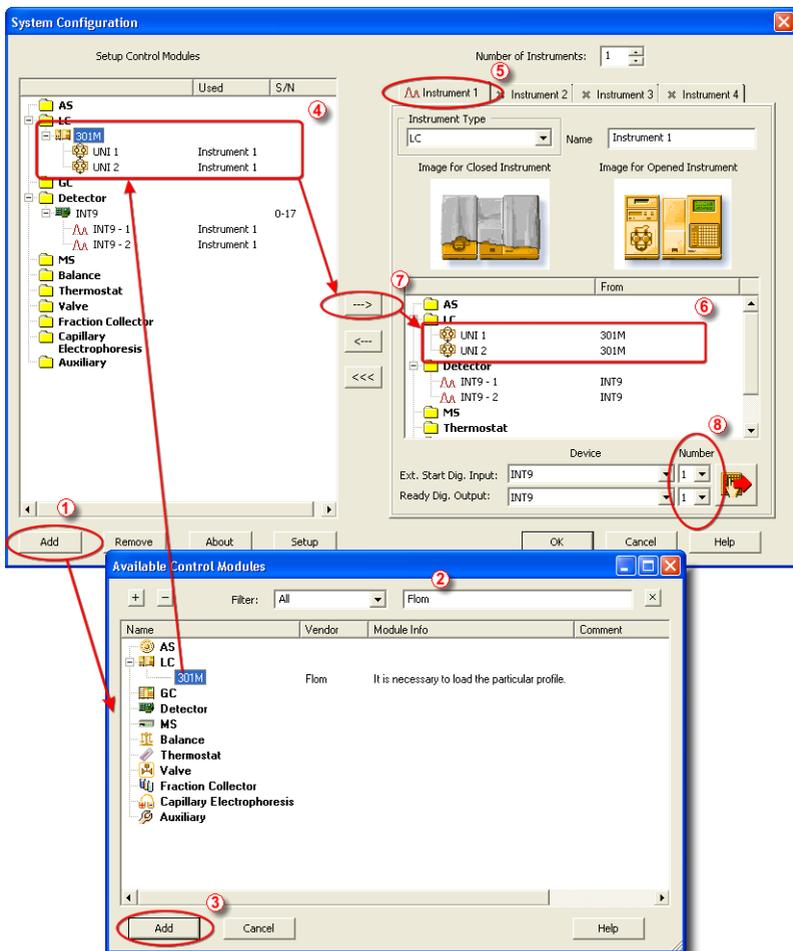

Fig 2: How to add Flom 301M pump
Start the **Clarity** station by clicking on the  icon on the desktop. Invoke the **System Configuration** dialog accessible from the **Clarity** window using the *System - Configuration...* command. Press the **Add** button ① (see Fig 2 on pg 6.) to invoke the **Available Control Modules** dialog. You can specify the searching filter ② to simplify the finding of the driver. Select the **301M** item and press the **Add** ③ button.